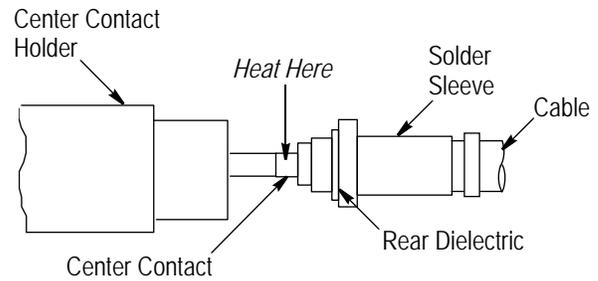

Figure 5
3.3. Solder Center Contact to Cable Inner Conductor (Figure 5)